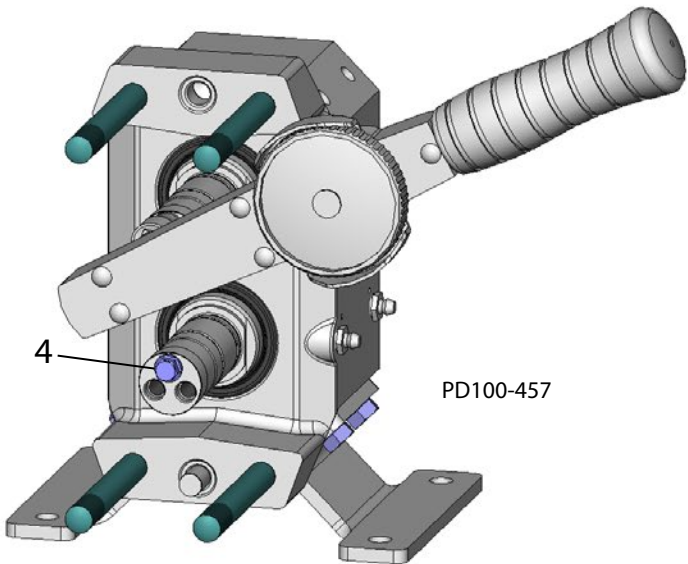

Figure 50 - Check Rolling Torque
- 3. Install one lug screw (Figure 50, item 4) into one of the tapped holes in each of the shafts and check the rolling torque of each shaft assembly with a torque wrench.